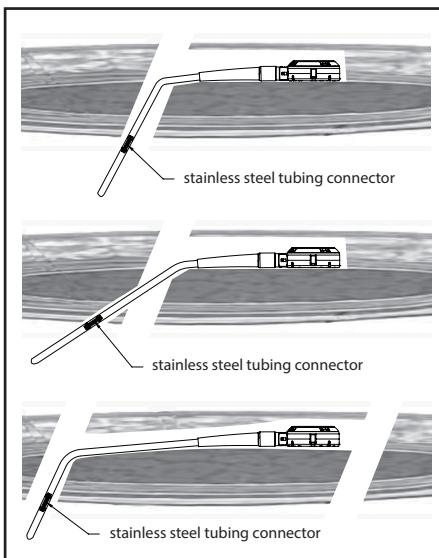

Figure 1. Port Placement Options
8. Failure to create a stable, smooth path for the access port tubing, without sharp turns or bends, can result in tubing breaks and leakage. In order to avoid incorrect placement, the port should be placed lateral to the trocar opening. A pocket must be created for the port so that it is placed far enough from the trocar path to avoid abrupt kinking of the tubing. The tubing path should point in the direction of the access port connector so that the tubing will form a straight line with a gentle arching transition into the abdomen. (See Figure 1. Port Placement Options).